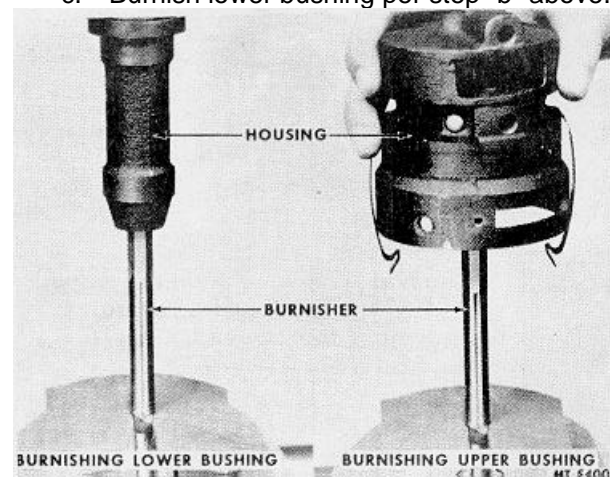

Fig. 55 Burnishing Upper and Lower Bushings Using Burnisher SE-1955-2
- b. Burnish upper bushing by placing distributor housing on burnisher carefully and rotating the housing clockwise using light pressure until tool passes through bushing (Fig. 55).